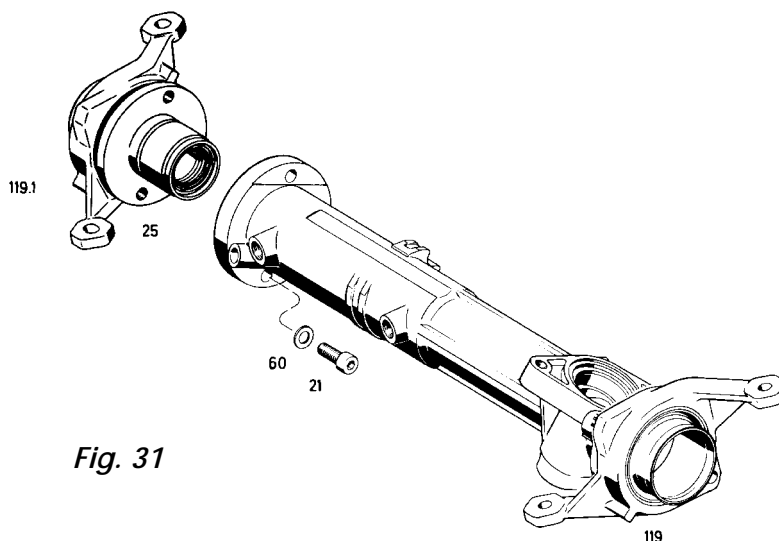

Fig. 31
Introduce the silent bloc (119.1) along with the pre-assembled piston rod guide (25) (**Fig. 31**).